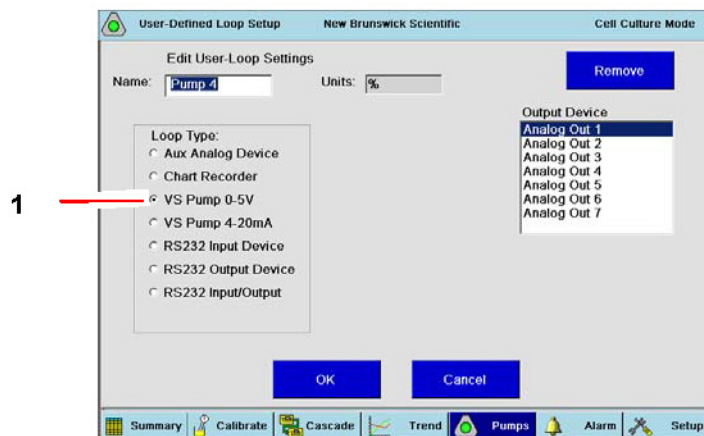

Fig. 62: Add User-Defined Loop Screen
6. Set up the pump control loop using a loop for external equipment (see *Adding loops on p. 35*) and (see Fig. 62 on p. 74).